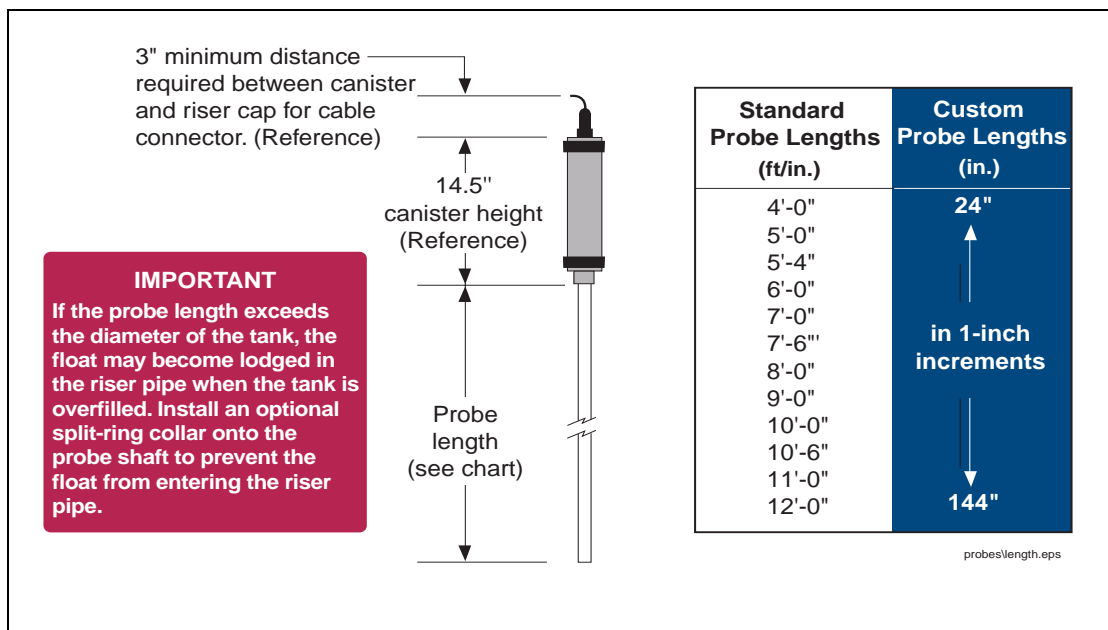

Figure 14. Standard and Custom Mag Probe Lengths
1. Measure the distance from the bottom of the tank to the top of the probe riser pipe (A).
2. Measure the distance from the bottom of the probe riser pipe to the top of the probe riser pipe (B).
3. Subtract (B) from (A) to determine the correct tank diameter (C). Round tank diameter (C) up to next highest inch and order this length probe.
4. Refer to the Standard and custom Mag Probe lengths shown in Figure 14 on page 19. Custom Mag Probe lengths are available at extra cost.